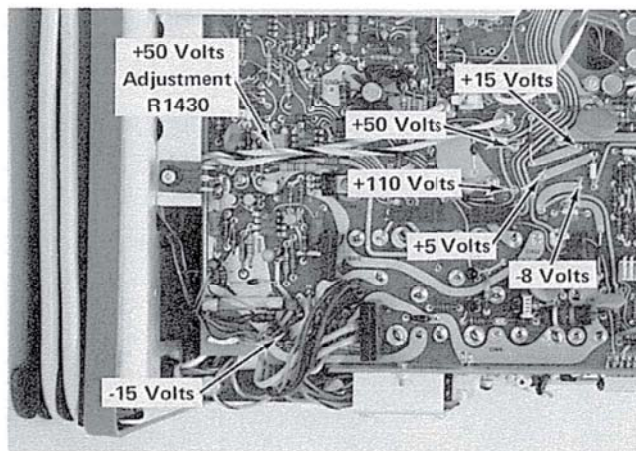

Fig. 5-2. Low voltage power supply test points and +50 V adjustment.
c. ADJUST—+50 volt supply adjustment, R1430, (see Fig. 5-2) for a meter reading of +50 volts, within 0.1% or 50 mV.
d. Using the Precision DC Voltmeter, measure the low voltage power supplies given in Table 5-5. Observe proper meter polarity. See Fig. 5-2 for test point locations.